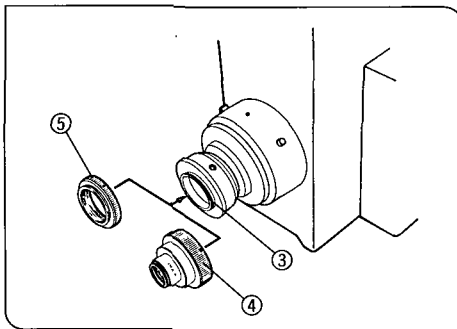

Fig. 114
2. The rear section of the adapter is provided with a thread ③ for mounting a T-mount. Firmly screw a C/T-mount adapter (U-CMT) ④ or an F/T-mount adapter (U-FMT) onto the thread. (Fig. 114)